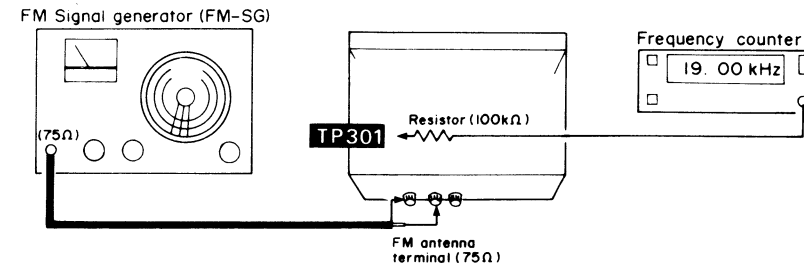

Fig. 8 (Adjustment of FM MPX VCO)
3. Connect frequency counter to TP301 through resistor (100k $\Omega$ ) referring to Fig. 8.